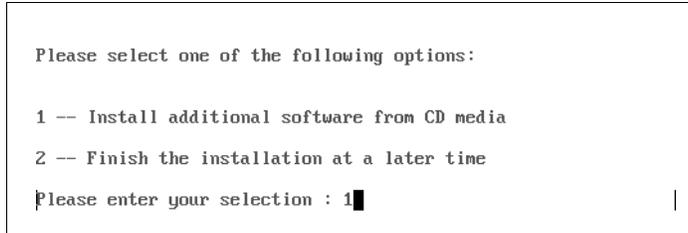

Figure 14-19 HMC upgrade - insert CD 3
9. When the HMC has finished installing from the second CD, you are prompted to install the third HMC recovery CD (Figure 14-19).